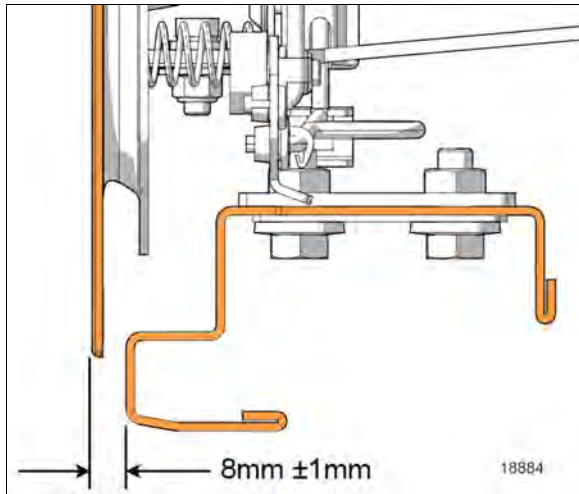

FIGURE 131: STRIKER SIDE TOP VIEW
26. Door exterior panel on latch side should be positioned at 8mm ±1mm from frame as shown in Figure 131. Make the adjustments by moving the receptacle support.